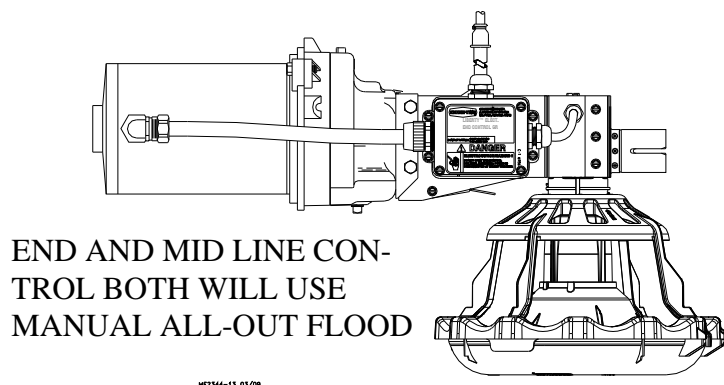

Figure 32. End Control Installation
1. Assemble the End Control Unit to the Feeder Line Control Tube using a clamp/anti-roost bracket. See **Figure 32**. **DO NOT INSTALL THE POWER UNIT AT THIS TIME.**